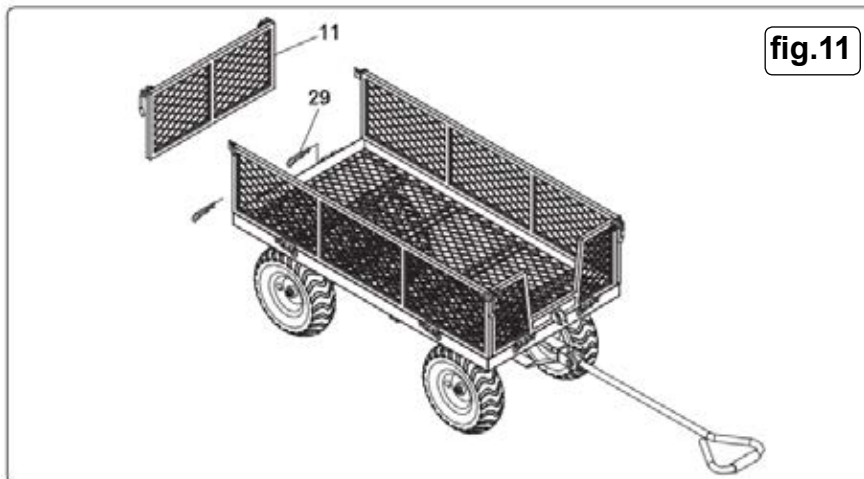

fig.11
5.11. BACK PANEL ASSEMBLY See fig.11